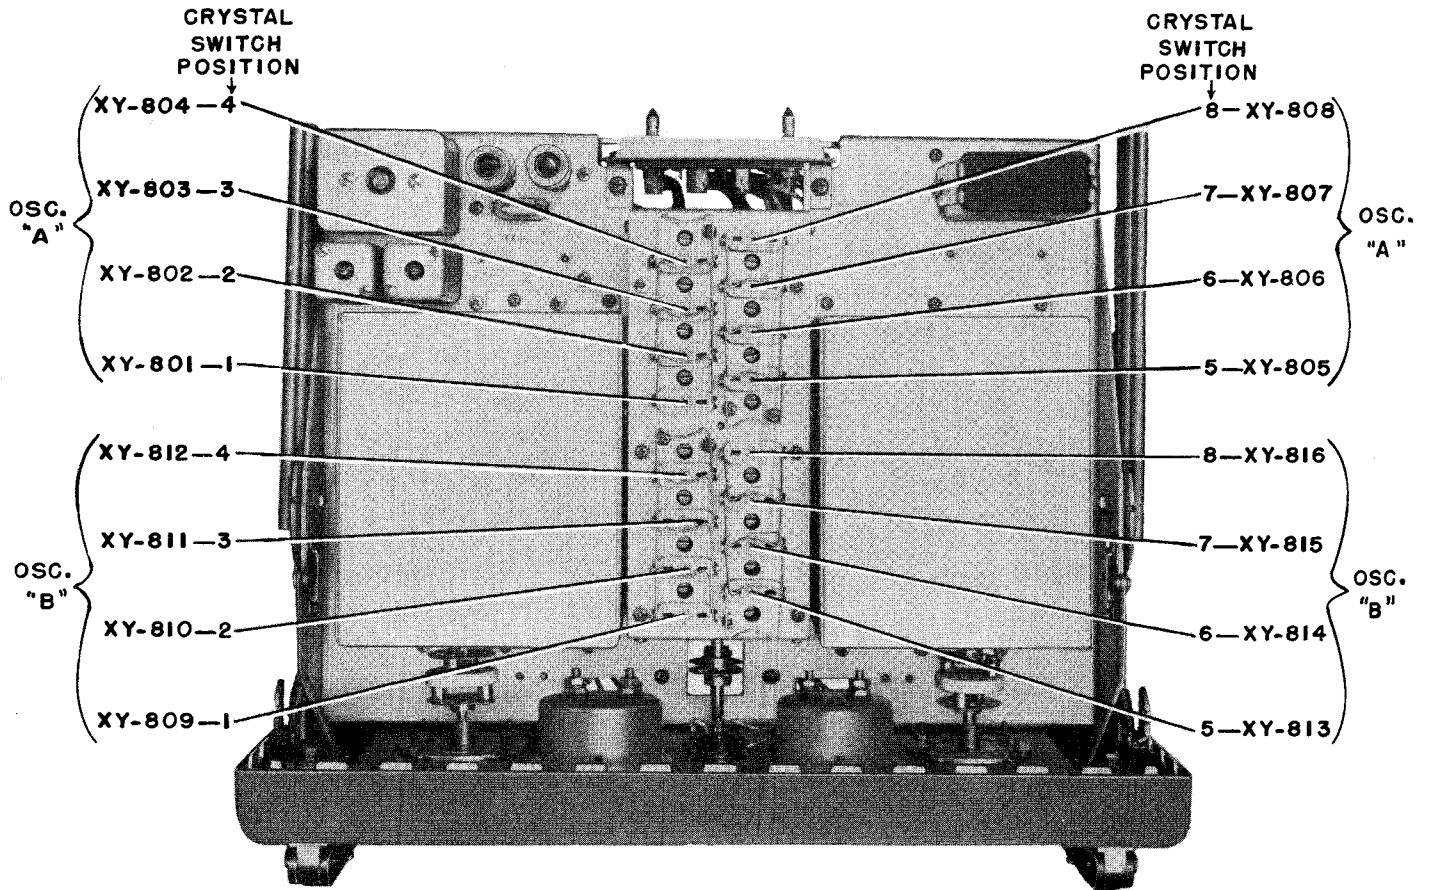

Figure 3-13. Crystal Socket Identification, Oscillator Assembly 0-131/FRR-24
d. **CRYSTAL INSTALLATION.**—Type CR-18/U crystals may now be installed in the Oscillator Assembly O-131/FRR-24. Crystals are not supplied with the equipment but are furnished by the Navy Department at the point of installation. To gain access to the crystal sockets slide this unit out of its cabinet. See Figure 3-12. Up to eight crystals may be mounted in both the A and B sections of the oscillator. Refer to Figure 3-13 for correlation between crystal sockets and switch positions. The crystal frequencies must be in the range of 3.75 to 15 megacycles to cover the 2 to 32 megacycle range of the equipment. The higher ranges are reached either by doubling or tripling the crystal frequency. It is recommended that the following chart be adhered to in determining the mode of crystal excitation i.e., operating the crystal on its fundamental frequency, doubling or tripling its frequency.